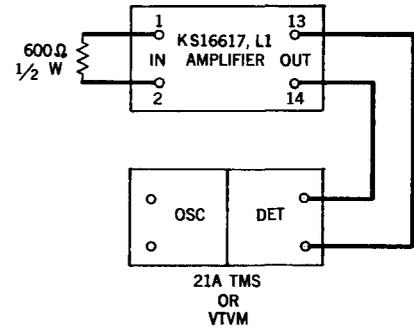

Fig. 2 – Test Setup for Measuring Noise of High-Level Channel
5.02 The noise test on the high-level channel should be made in accordance with the test setup shown in Fig. 2. A DET (TMS) or a VTVM is used to measure the unweighted noise instead of the 2B or 3A Noise Measuring Set for the sake of convenience. The readings are arbitrary readings and are not true noise levels since these test sets are not direct replacements for a noise measuring set. Chart II outlines the step procedure for making the test.